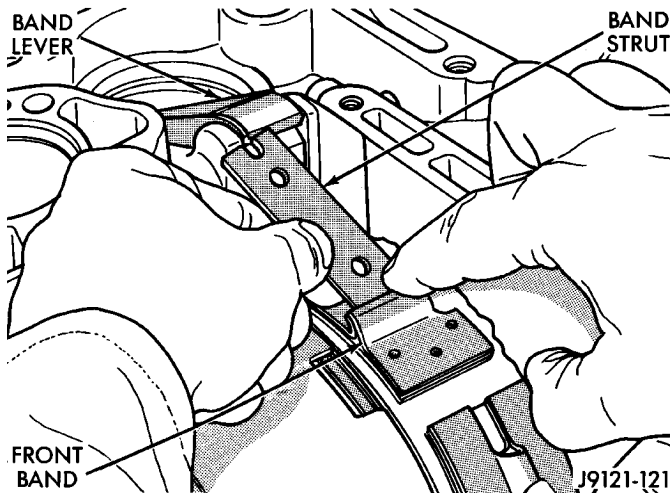

Fig. 95 Removing/Installing Front Band Strut
(17) Loosen front band adjusting screw until band is completely loose.
(18) Squeeze front band together and remove band strut (Fig. 95).